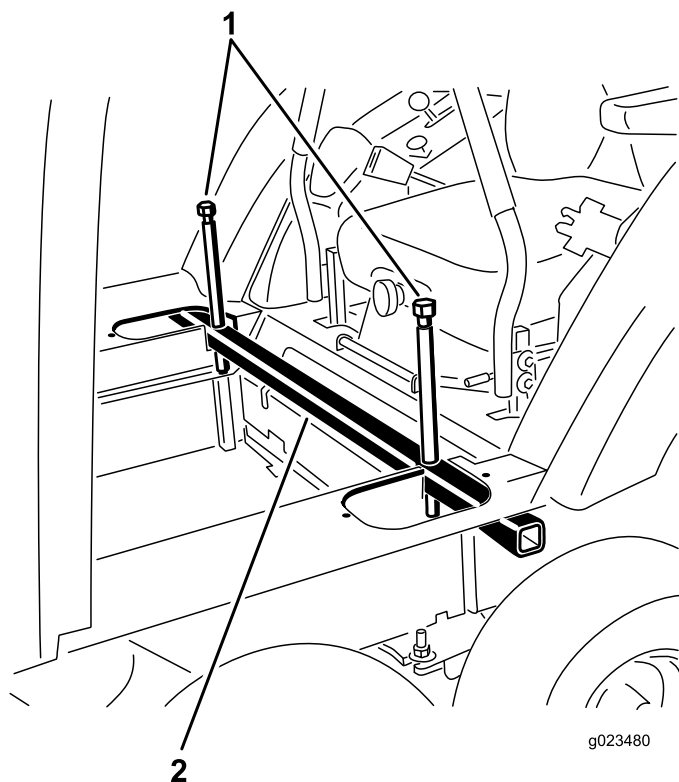

Figure 27
16. Loosen the jacking bolts and remove the cab-jack tube from the cutouts in the cab floor (Figure 27).